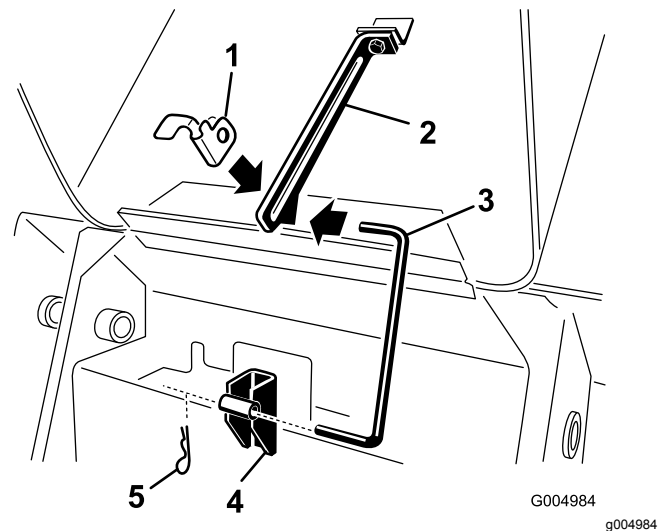

Figure 41
4. Pull the hairpin cotter from the bottom end of the hood prop-rod and slide the prop rod out of the retaining brackets and the prop-rod tab (Figure 41).
8. Install the prop-rod into the retaining brackets and prop-rod tab and secure it with the hairpin cotter (Figure 41).